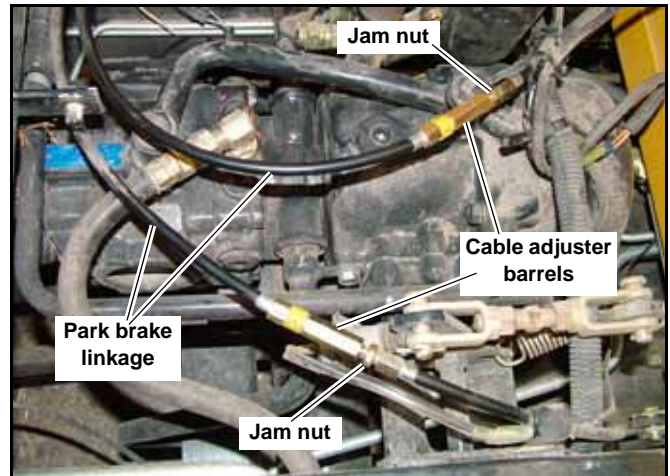

Figure 4-34
4. Loosen the jam nuts on each of the park brake cable in-line cable adjuster barrels as shown in Figure 4-34. Back the jam nuts off several turns.
5. Turn the in-line cable adjuster barrel (Figure 4-34) on each cable accordingly to properly adjust the cable. Lengthening the in-line cable adjuster assembly (exposing more threads) will tighten the cable and reduce the free play. Shortening the in-line cable adjuster assembly length (less exposed threads) will loosen the cable and create more free play. Both cables should be adjusted so they are providing equal free play when the brake is off, and equal brake force on each brake when the park brake is applied.